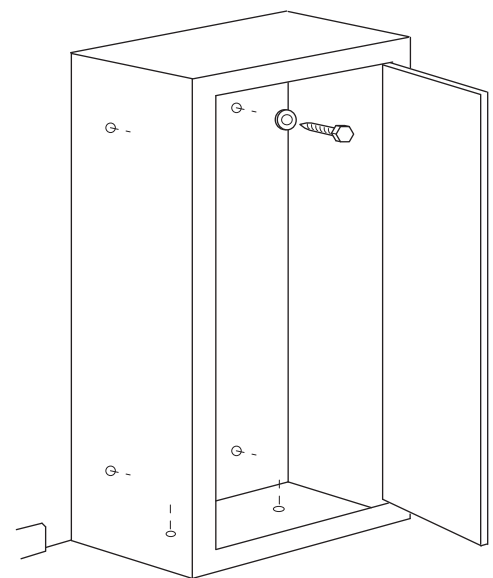

Figure 10
The cabinet should be flat against the wall and floor. Remove the baseboard if necessary. (See figure 10)
Drill (4) 3/16" pilot holes into the wall studs and secure the cabinet to the wall using (4 ea.) lag bolts and washers. (See figure 10)